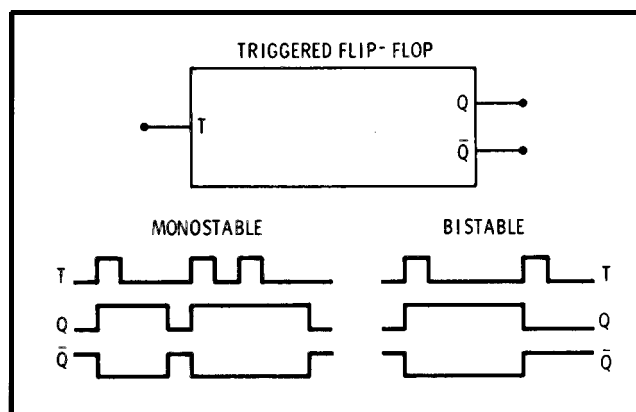

Figure 8-5. Triggered Flip-Flop
8-45. Triggered Flip-Flop. There are two kinds of triggered flip-flops. The bistable triggered flip-flop toggles (changes states) each time the trigger input (T) changes states (shown in Figure 8-5). This effectively divides the input by two, giving one output pulse at the Q output for every two input pulses.